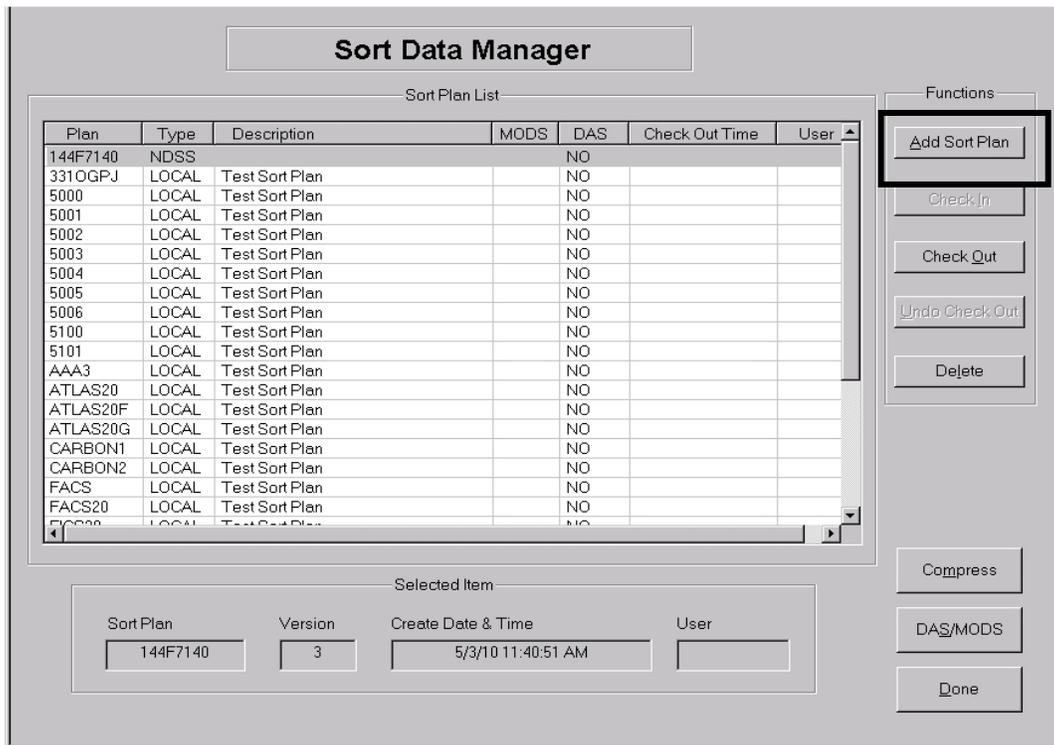

Figure 2-2. Sort Data Manager
3. From the Sort Data Manager window, click on **Add Sort Plan**. See Figure 2-2.